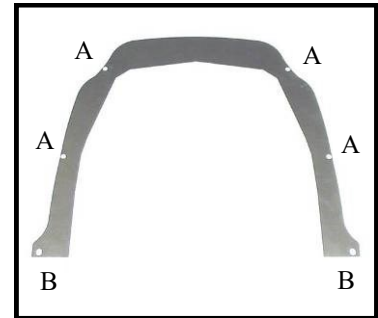
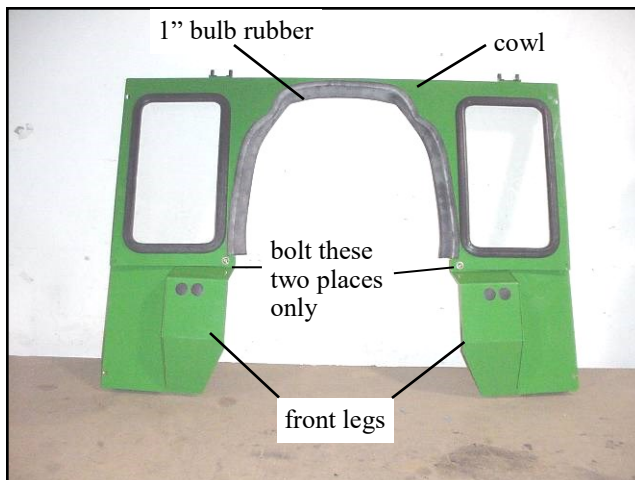

Fig. 3.1 4510 front cowl insert
Fig. 3.2 20 series front cowl assembly (outside surface shown)
- 3.1 **For model 42/43/4410**, pre-assemble the cowl and the cowl insert using a total of four bolts (5/16-18 x 3/4" long), eight steel washers, four nylon washers, and four locknuts. Note: fig. 3.1 shows the cowl insert and which four holes to bolt up initially (bolt location "A"). Bolt the cowl insert to the inside surface of the cowl. Note: the cowl insert and the associated hardware is only required on model 42/43/4410 vehicles.
- 3.2 Next, bolt the front legs onto the inside surface of the cowl so that the cowl insert becomes sandwiched between the cowl and the front legs (bolt location "B"). Attach the front legs using a total of two bolts (5/16-18 x 3/4" long), four steel washers, two nylon washers, and two locknuts. Install 1" bulb rubber (approximately 52") along the sheet metal edges as shown in fig. 3.2. Trim any extra bulb rubber.
- 3.3 **For all 20 series models (example: 3120, etc.)**, pre-assemble the cowl and front legs (as shown in fig. 3.2) by fastening together at the inside hole only, using two 5/16" x 3/4" long button head screws, steel washers, nylon washers, and locknuts. Locknuts to be on the inside surface of the cowl assembly. Install 1" bulb rubber (approximately 52") along the sheet metal edges as shown in fig. 3.2. Trim any extra bulb rubber. Note: the cowl insert (shown in fig. 3.1) and the associated hardware is only required on model 42/43/4410 vehicles.